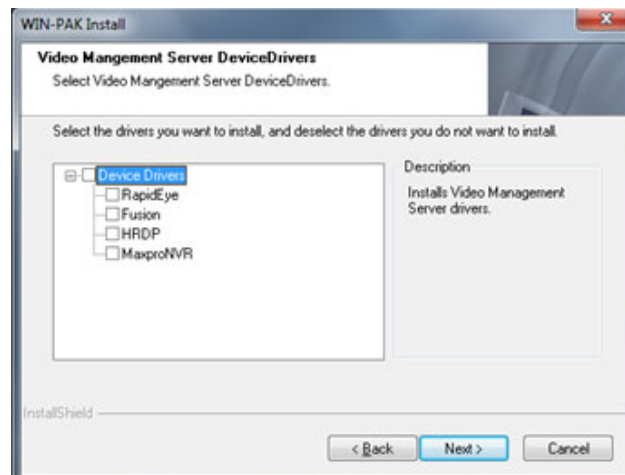

Figure 2-19 *Selecting the Device Drivers*
6. Click **Next**. Figure 2-19 appears.